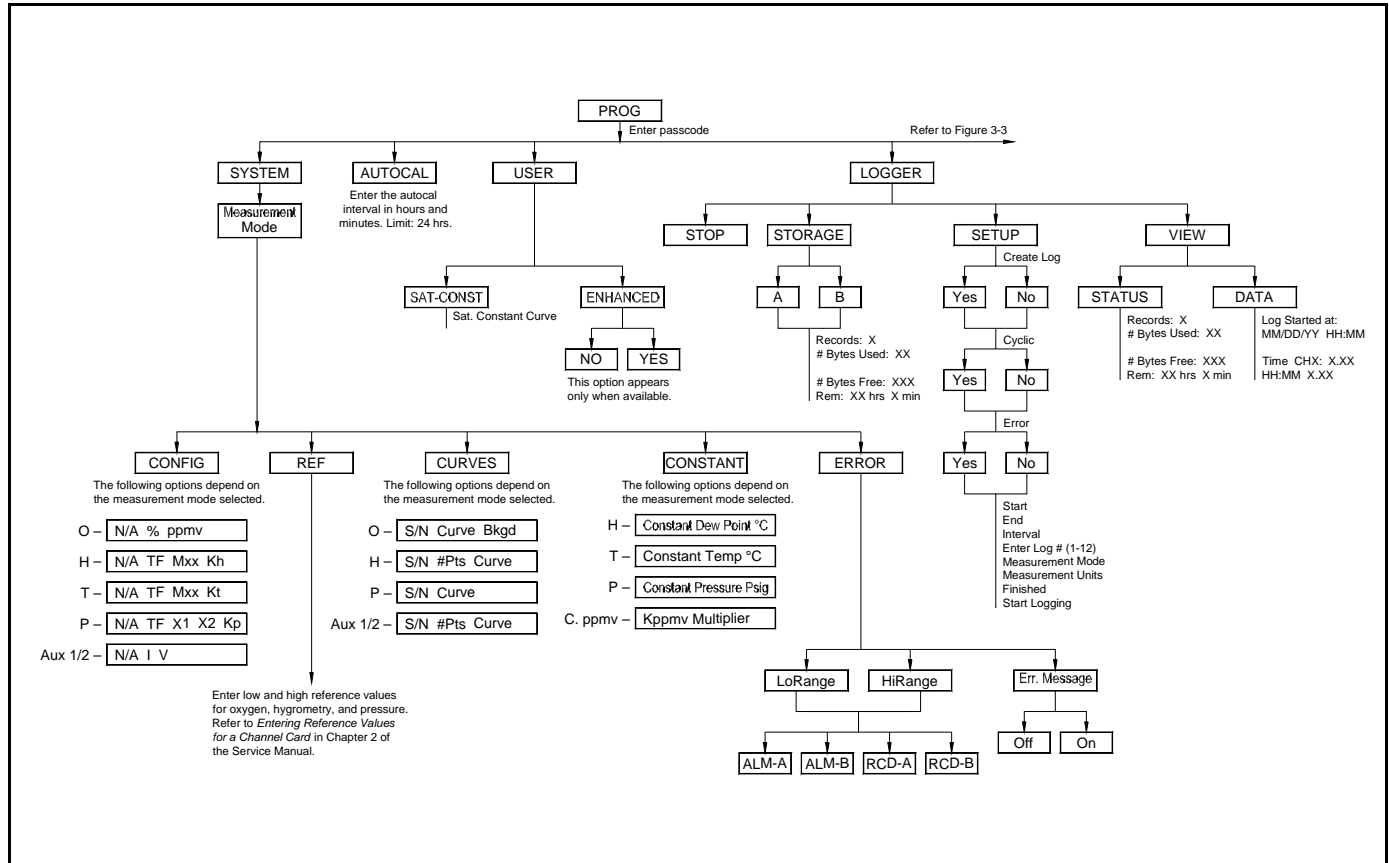
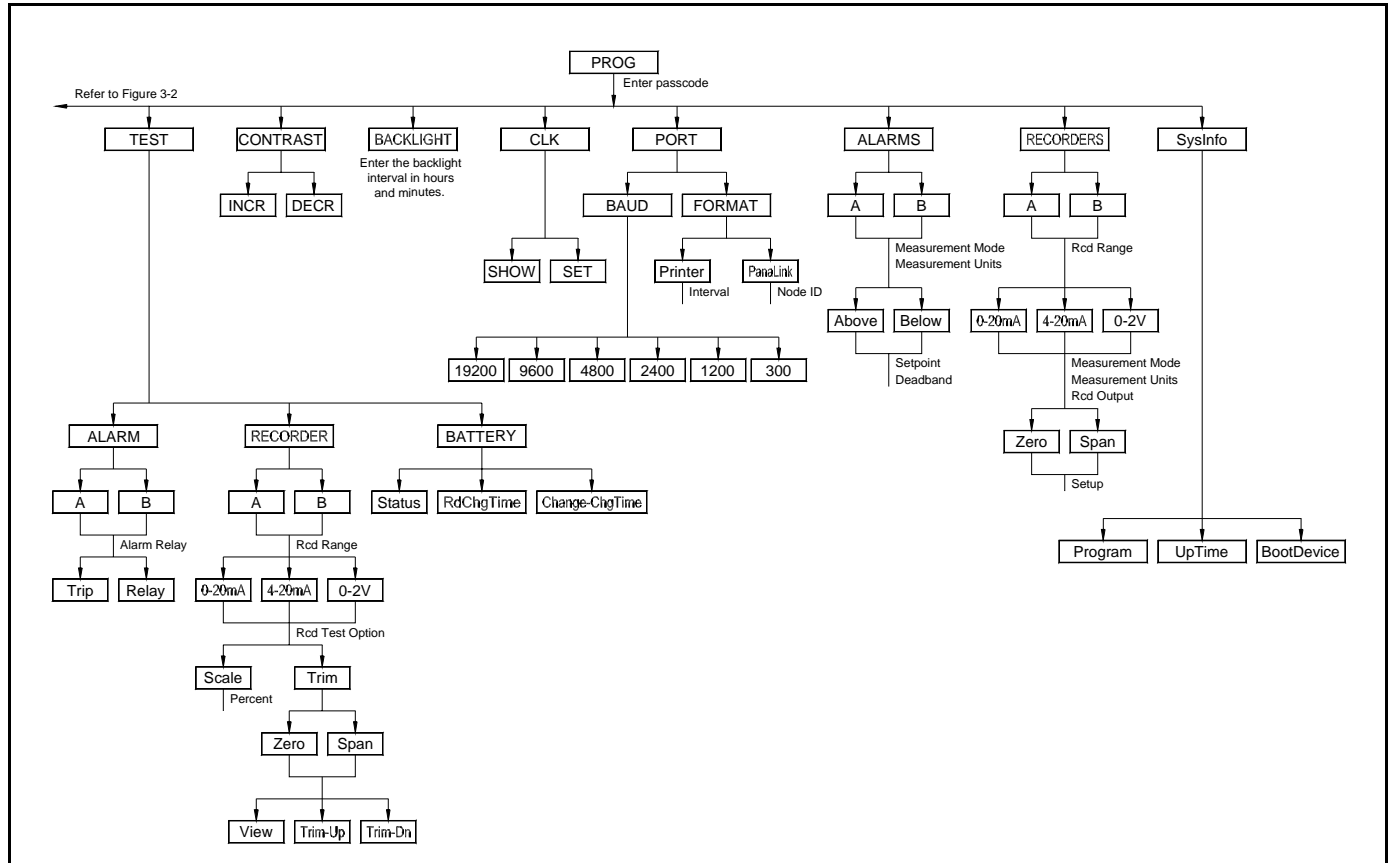

Figure 3-2: Program Menu Map (sh. 1 of 2)
Figure 3-3: Program Menu Map (sht. 2 of 2)
- Refer to another section and perform a different procedure. Refer to Figure 3-2 on page 3-44 and Figure 3-3 on page 3-45 to navigate through the user program.